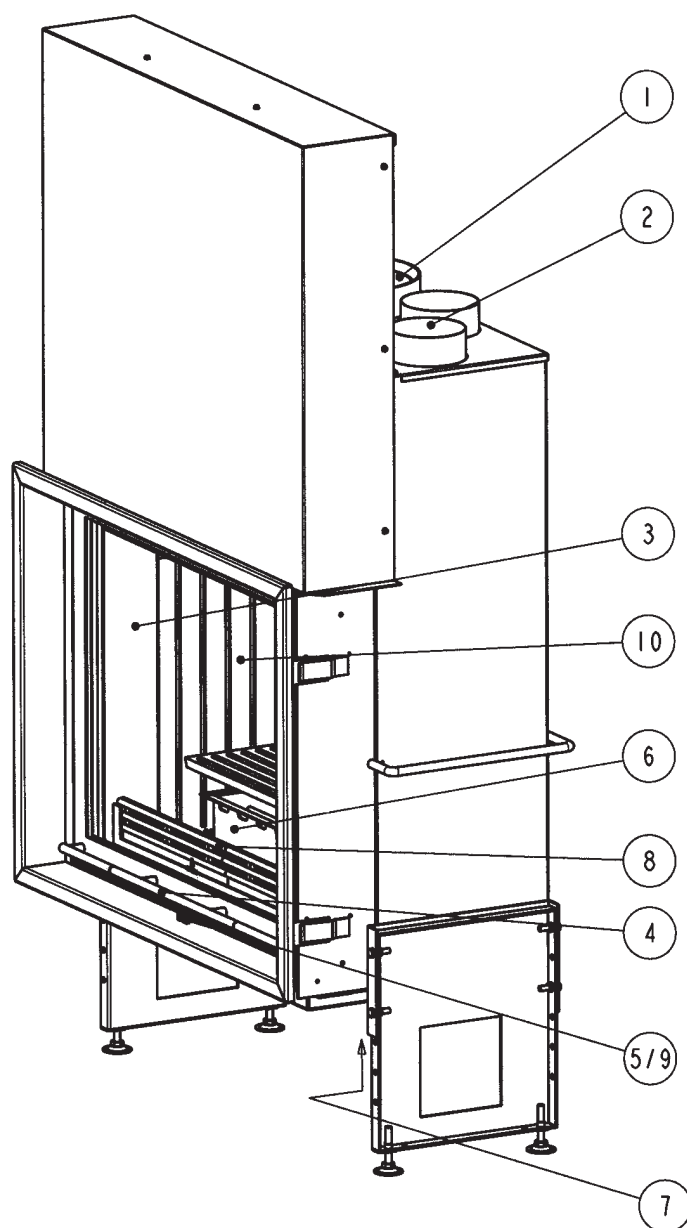

Figure 1: Operation
7.2. GETTING THE FIRE GOING (Figure 1)